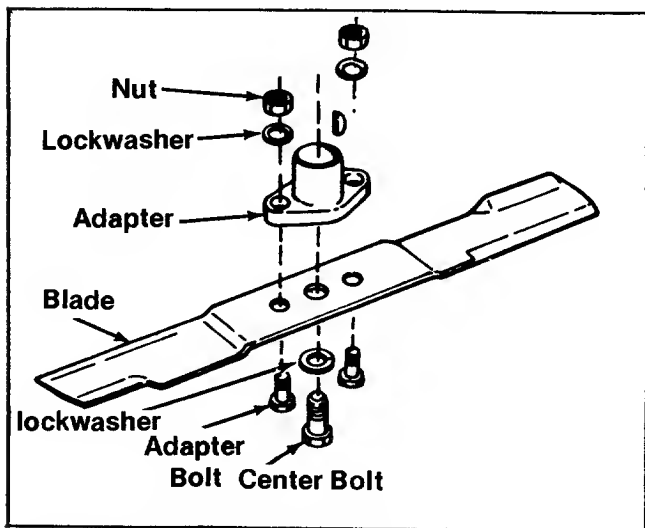

FIGURE 23. BLADE REMOVAL
**Removing and Sharpening Blades.** Remove the center bolt and lockwasher. See figure 23. Pull the blade and blade adapter from the blade spindle.